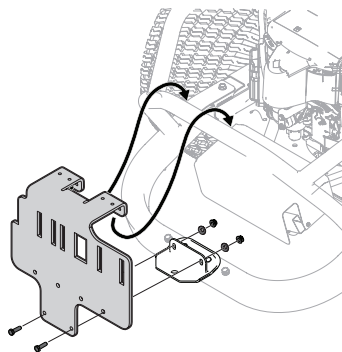

Figure 5
4. Hang adapter bracket assembly onto upper frame square tube and connect to hitch bracket adapter (789-02298) with two screws (710-0376), two cup washers (736-0242), and two flange lock nuts (710-04063). See Figure 5.